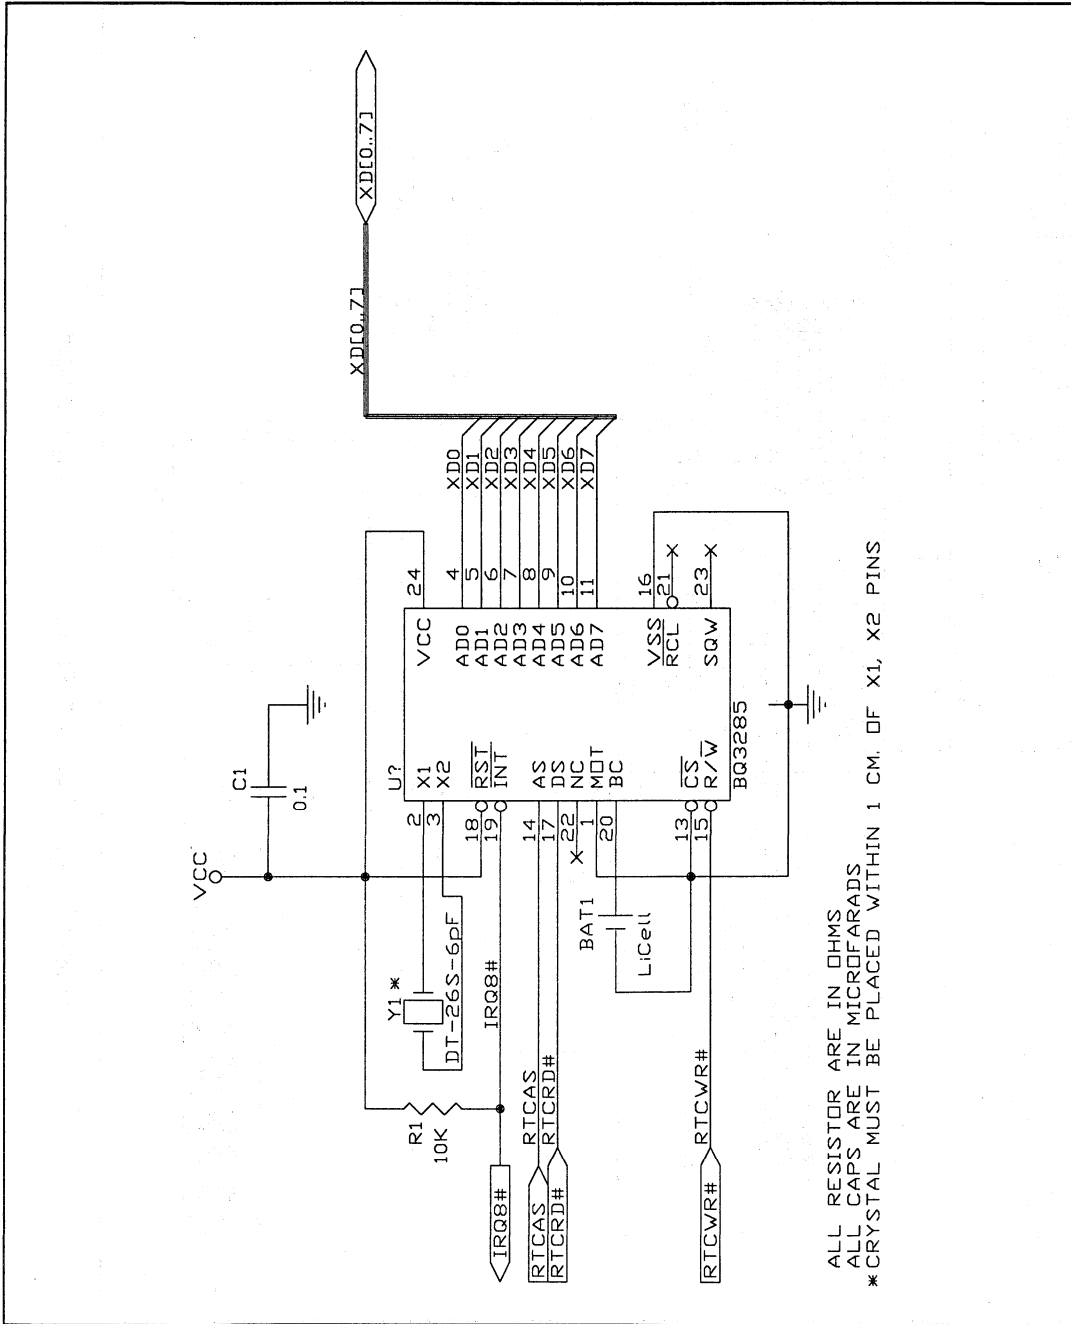

Figure 2. bq3285 ISA (PC/AT) Example
- Equivalent bq3285 design (Figure 2, Table 4)
**Table 4. bq3285 ISA (PC/AT) Parts List (Figures 2 and 3)**